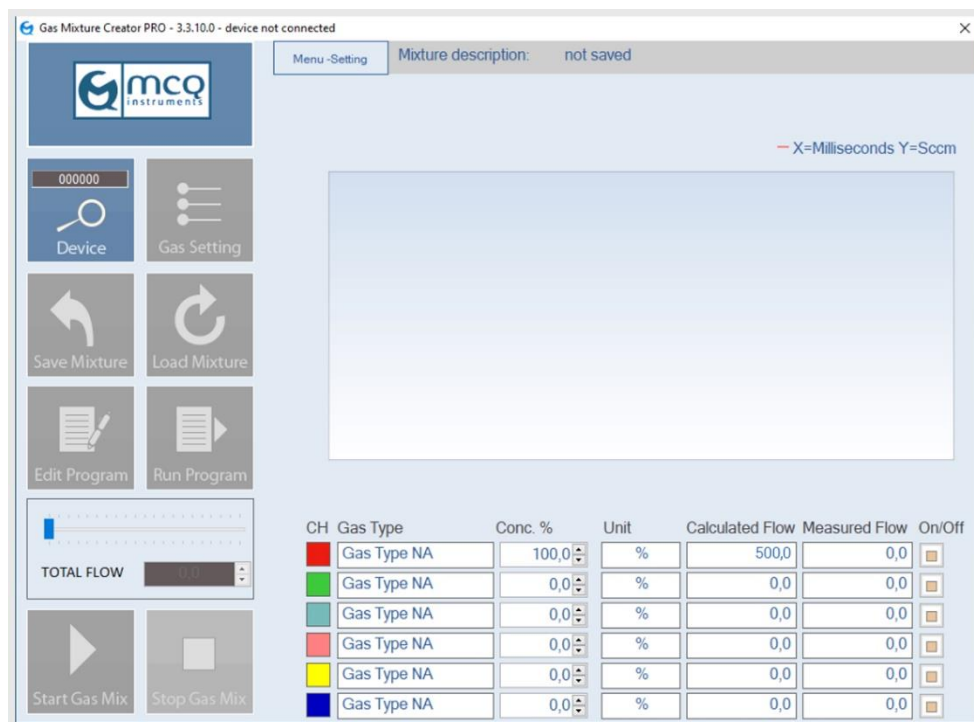

Figure 5-10
3. After the launch, the Gas Mixture Creator's start screen will be displayed as shown in the example below. (Figure 5-10)